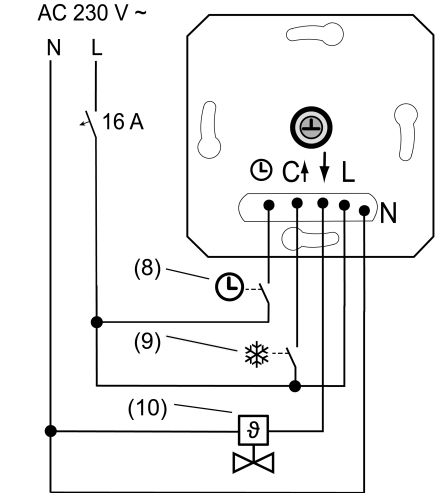
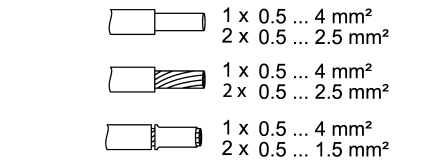

Figure 2: Connection example of the insert
Figure 3: Clampable conductor cross-section
- Connect electrothermal valve drive (10) to insert (1) according to connection diagram (Figure 2). Observe the conductor cross-sections (Figure 3).
- Optionally, connect the ECO operation input $\odot$ via a switching contact of a central clock (8). If 230 V is applied to the input, the setpoint temperature is reduced by 4 °C, exclusively in heating mode.
- Optionally, connect the cooling input **C** via a switching contact of the heating system (9). If 230 V is applied to input C, the cooling mode is active. If 230 V is switched off, the device automatically switches to heating mode. After each switchover, the LED lights up for 10 seconds in the colour of the current operating mode.